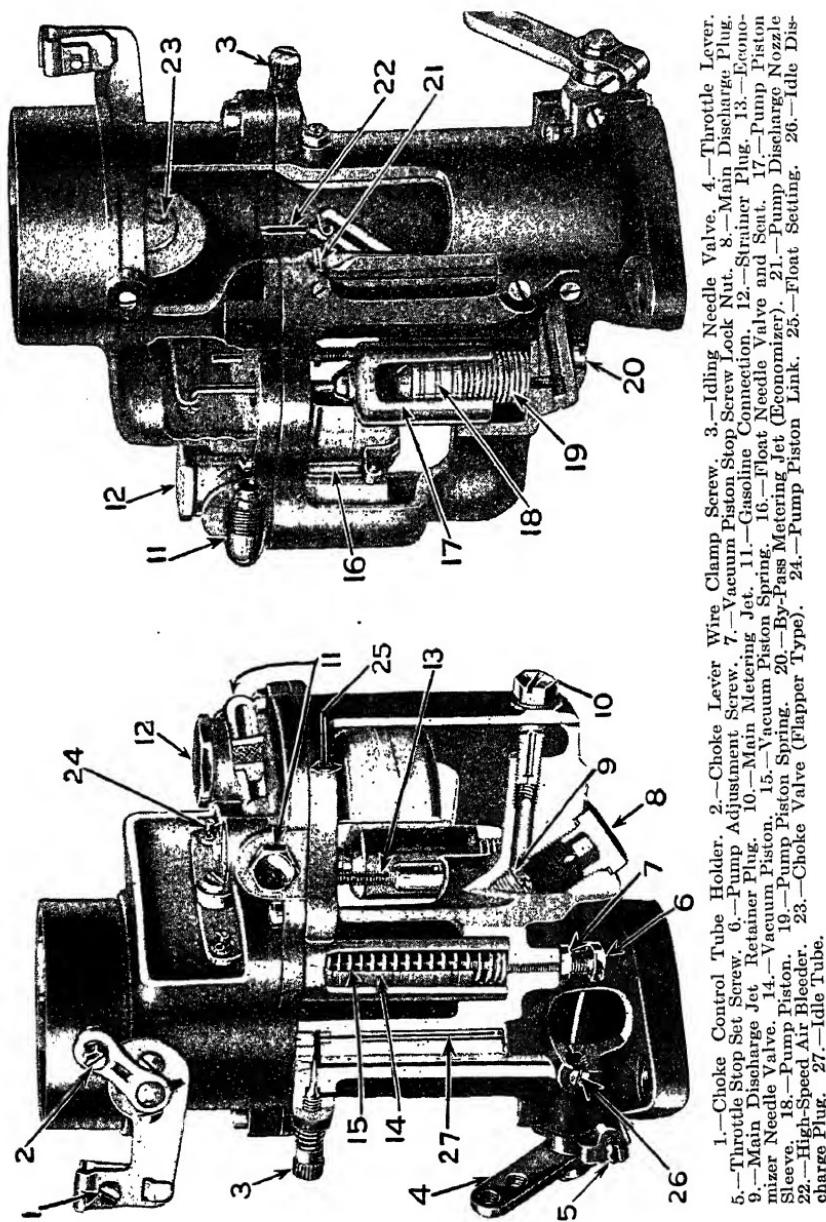

Fig. 62. Sectional Views of the Stromberg Type of Downdraft Carburetor
**Model "D."** One of the latest developments in the carburetor field is the application of the down-draft principle. The proper application of the idea secures a more complete distribution of the fuel. The Stromberg down-draft carburetors incorporate the well-known and long-used plain-tube principles. All of the theory as given herein covering the Stromberg models has application in and understanding of the operation of the Model "D," illustrated in Fig. 62. The Model "D" incorporates the following principles:
*Float-Level Adjustment.* When the engine is not running, the proper gasoline level is  $\frac{7}{8}$  inch below the top of the float bowl. The proper setting for the Model "D," shown at 25 in Fig. 62, is  $\frac{2\frac{3}{4}}{6}$  inch from the lower surface or gasket face of the cover to the top of the float at its center. Bend the float lever arm in the corner to correct the setting, bending it an amount equal to the correction desired.
*Low-Speed Adjustment.* If the carburetor adjustment has been tampered with or destroyed for any reason, the first thing to do is to have the engine well warmed up so that the intake pipe above the carburetor is approximately 120 degrees, which will be quite warm to the hand. Slow down the engine by means of the throttle lever on the steering wheel until the steady minimum idling speed is reached. Turn the low speed adjustment *S* in Fig. 62 right and
*Intermediate Speed.* The fuel mixture at intermediate speed is controlled by the size of the main metering orifice 10 in Fig. 62. The size of this orifice is stamped on the outer face of the jets in decimal parts of an inch. It is not likely that this size will need to be changed except in cases of damage, when parts should be replaced. On wide open throttle, an additional quantity of fuel is supplied by the by-pass metering jet 20.
*Accelerating-Pump Adjustment.* The pump adjustment screw 6, Fig. 62, controls the quantity of fuel which is delivered by the accelerating pump. The normal factory settings do not ordinarily need to be changed. In hot weather the accelerating pump discharge may be reduced by turning the screw up or to the right and in winter the quantity may be increased by turning the screw to the left or down. Loosen lock nut 7 before adjusting and tighten it after making the adjustment.